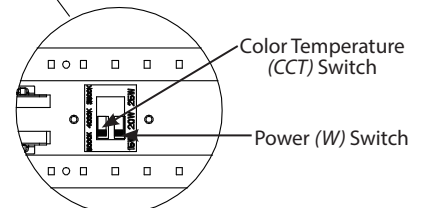

Fig: 8
3. Select **Power (W)** and **Color Temperature (CCT)** by sliding respective switch to the desired value (Fig. 8).